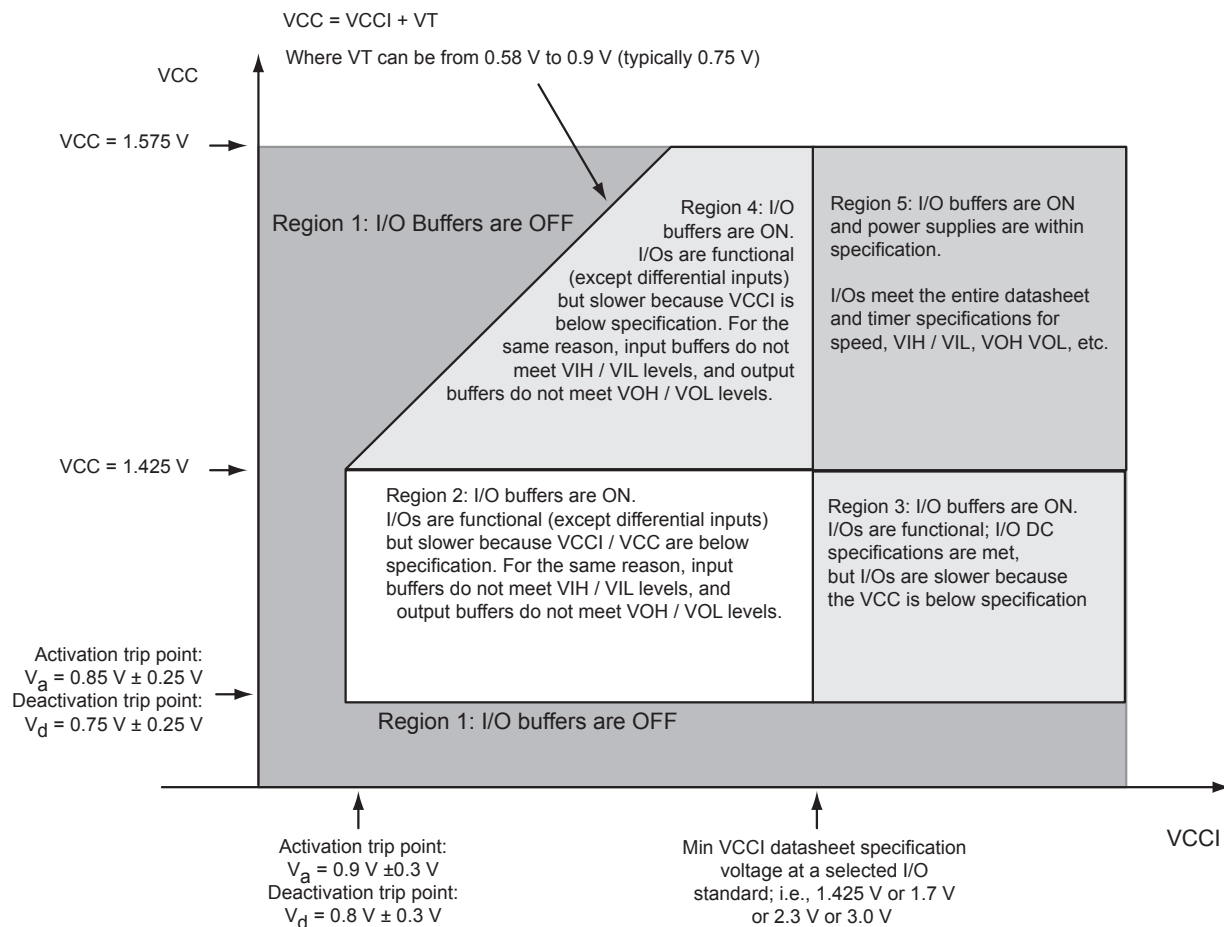

Figure 3-1 • I/O State as a Function of V_{CCI} and V_{CC} Voltage Levels
Sophisticated power-up management circuitry is designed into every Fusion device. These circuits ensure easy transition from the powered off state to the powered up state of the device. The many different supplies can power up in any sequence with minimized current spikes or surges. In addition, the I/O will be in a known state through the power-up sequence. The basic principle is shown in Figure 3-1 on page 3-6.
1. VCC and VCCI are above the minimum specified trip points (Figure 3-1).
Microsemi recommends using monotonic power supplies or voltage regulators to ensure proper power-up behavior. Power ramp-up should be monotonic at least until VCC and VCCPLX exceed brownout activation levels. The VCC activation level is specified as 1.1 V worst-case (see Figure 3-1 on page 3-6 for more details).